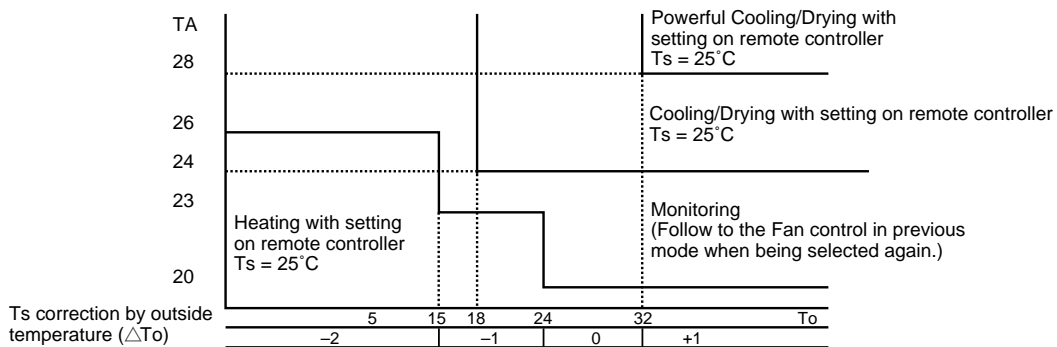

Fig. 8-2-9
(1) As shown in Fig. 8-2-9, the operation mode (COOL, DRY, HEAT) is selected according to the outside temperature and room temperature when the operation has started.
Access the TEMPORARY button located in the lower right hand corner beneath the hinged front panel of the indoor unit (please refer to Fig. 8-2-9). The power supply to the unit must be on - the function will not be set if the power is off.